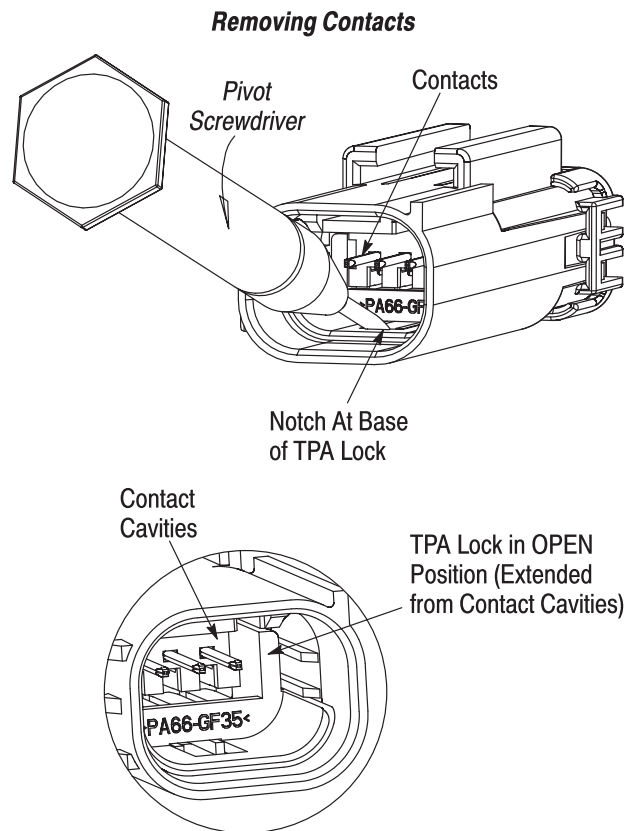

Figure 7
2. Move the TPA lock to the OPEN position by inserting the tip of the screwdriver into the notch at the base of the TPA lock and pivoting the screwdriver away from the contacts. The TPA lock is in the OPEN position when it extends from the contact cavities. See Figure 7.